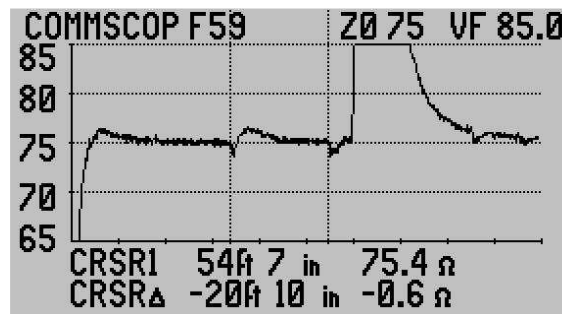

Figure 3-60
**ALL FAULTS** – TDR presents a reduced Z Scale trace with dribble up removed to maintain a flat trace at  $Z_0$ . By eliminating the dribble up and reducing the Z Scale small faults of any kind can be more easily identified. In figure 3-60 there are two small faults. The first fault is marked by Cursor 2 at about 34ft is a worn barrel connector and the second marked by Cursor 1 is a kink in the cable. Both could be service affecting at higher frequencies.